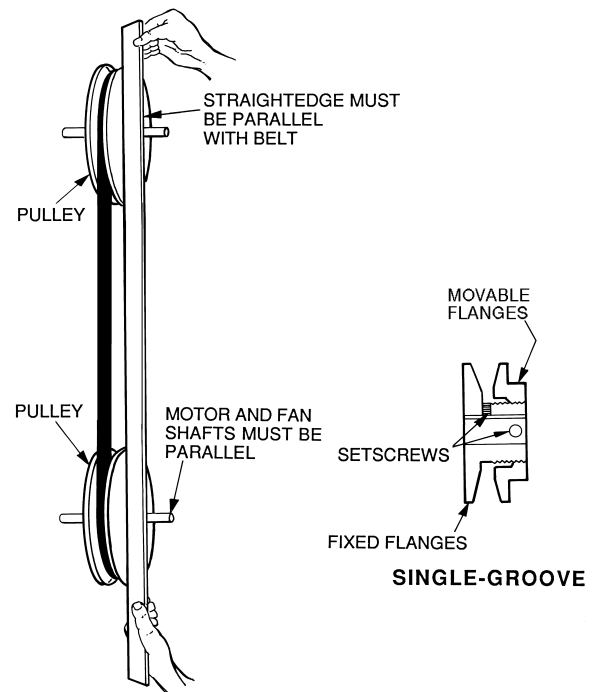

Fig. 20 — Evaporator-Fan Alignment and Adjustment
3. Loosen movable-pulley flange setscrew (see Fig. 20).